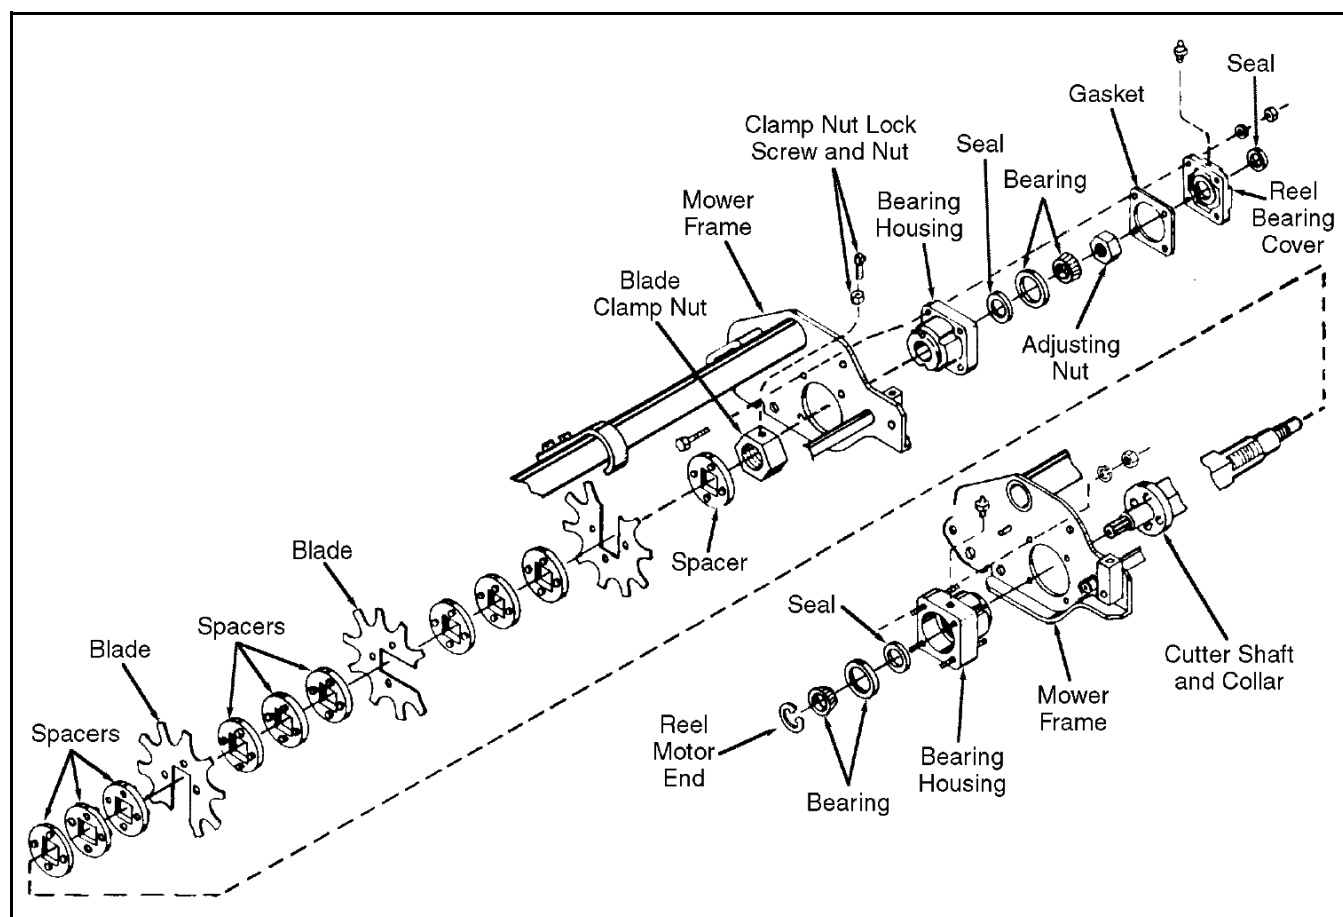

Figure 13B-1. Disassembly and Reassembly of the Vertical Mower Assembly
2. Disassemble and reassemble the cutter assembly as shown in Figure 13B-1.